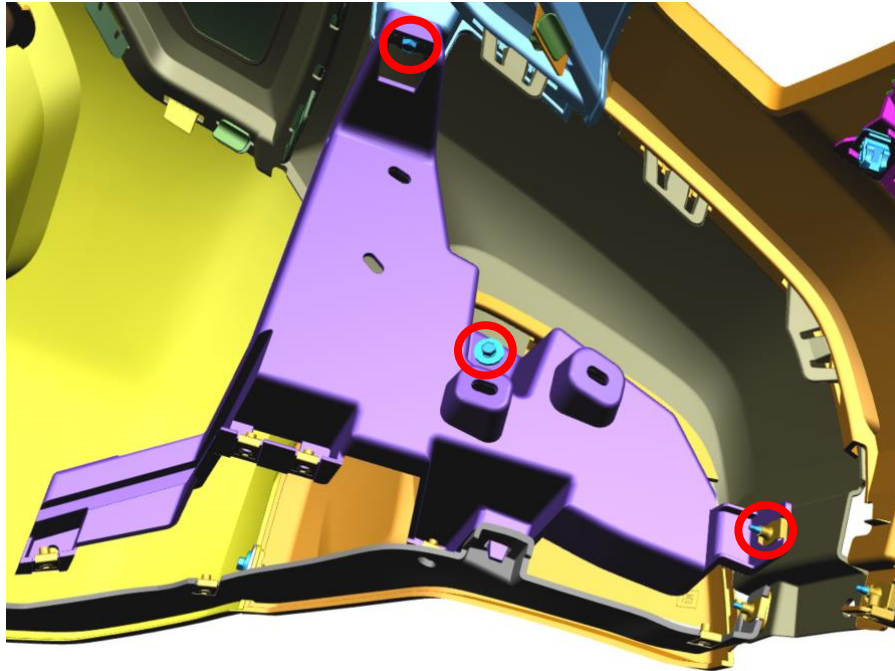

Figure 8 – Passenger Side Plastic Brace
- Remove [3] M4 bolts (M7 Socket) per side and discard Plastic Brace – Fig. 8